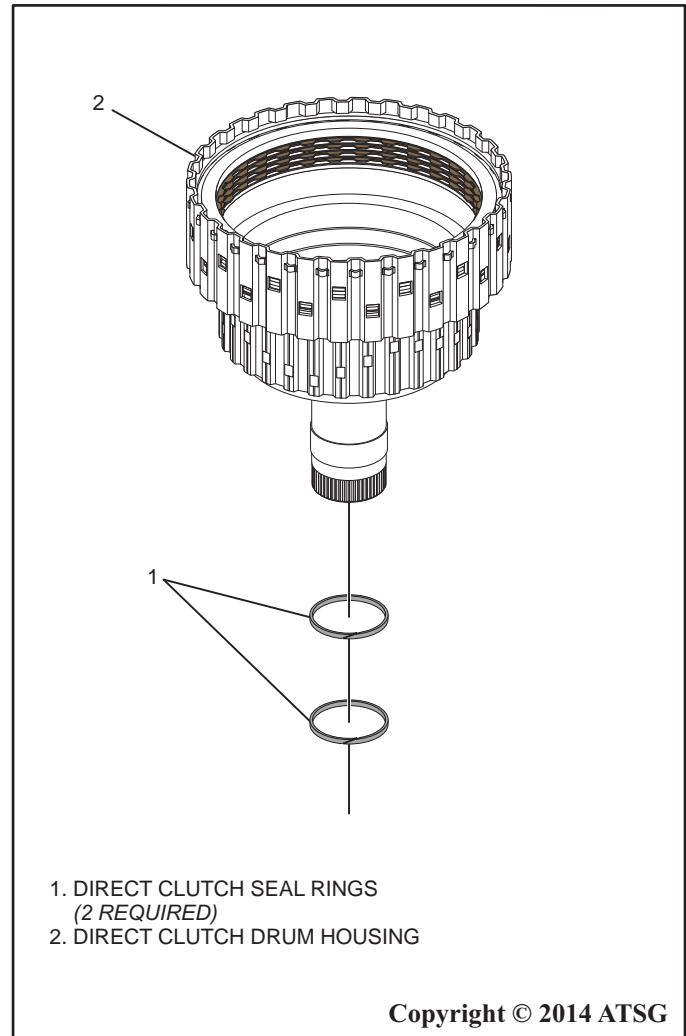

Figure 103
15. Install two new seal rings onto the direct clutch drum housing as shown in Figure 103.